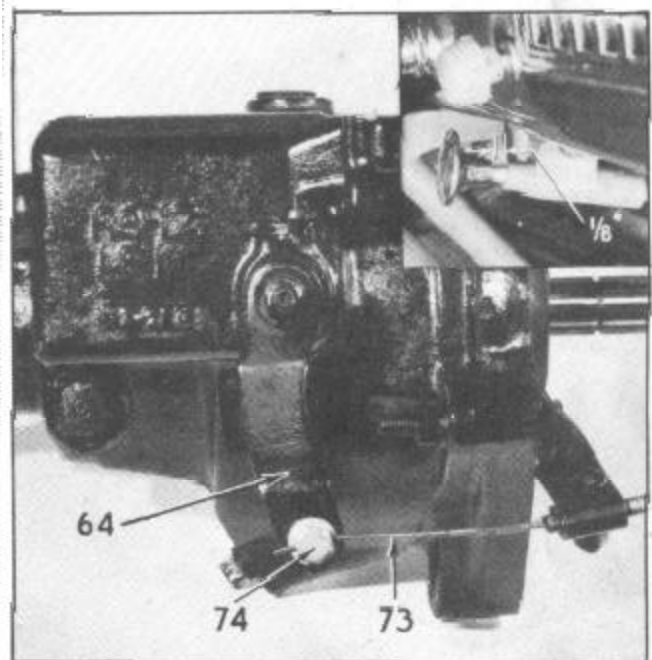

Figure 48--Overdrive Control Cable Adjustment
The overdrive control cable is adjustable for length at the lever (64), Figure 48, on the overdrive case. The cable (73) should be released at the binding screw (74) and the lever on the case pushed back as far as possible. With the lever in this position the overdrive unit is in the engaged position. Move the control button in as far as it will go and then back out approximately 1/8" (as shown in inset) to insure full travel of the button. With the control button in this position tighten the binding screw on the wire at the lever on the overdrive case.